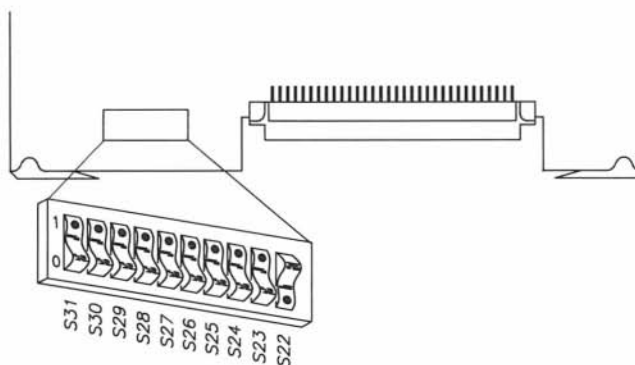

Figure 3-1. Setting switches on the new HP 98258A RAM board
3. Set the switches on your new RAM board as shown in figure 3-1.
7. Turn your computer on and hold down the space bar a few seconds. Check the display to make sure the amount of RAM in your computer has increased to *approximately* 8 Mbytes (8 338 608 bytes). See figure 3-2. If the memory reported is significantly less, check that the switches for your built-in RAM are set as shown in figure 3-3. Then double-check that your new RAM board's switches are set as shown in figure 3-1.